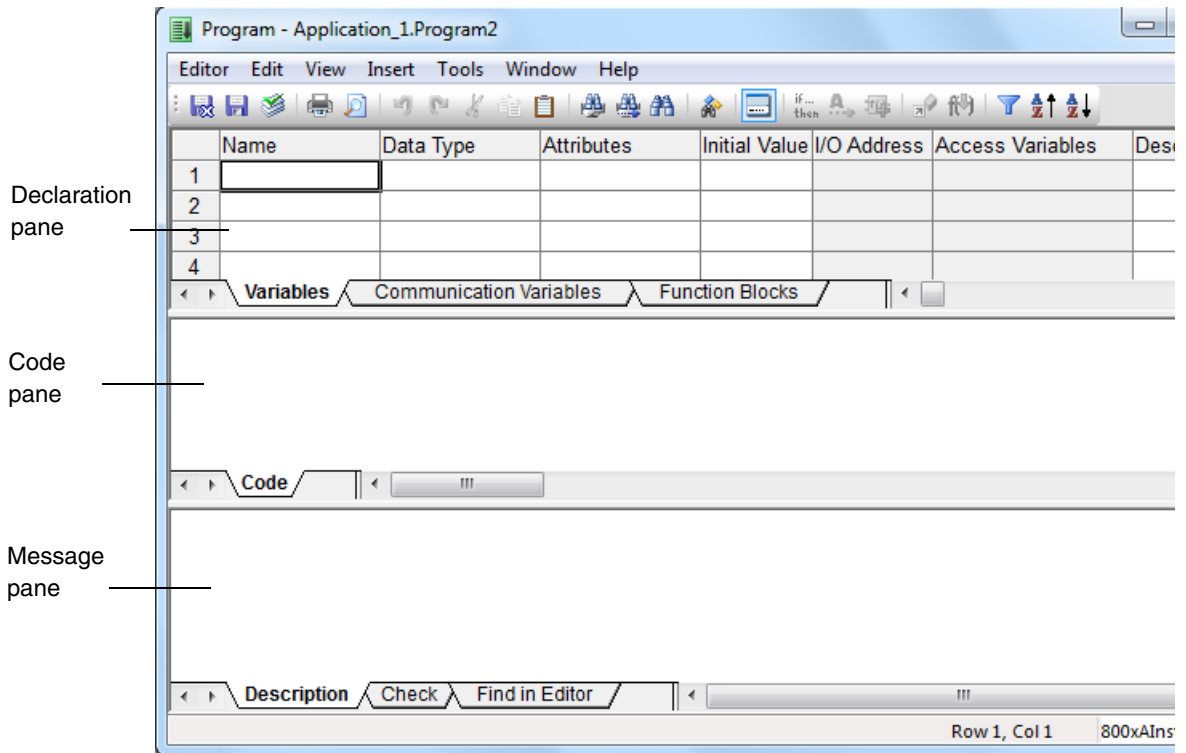

Figure 22. The editor for program **Program2**
2. The program editor is divided into three panes: the declaration pane, the code pane, and the message pane, see Figure 22.